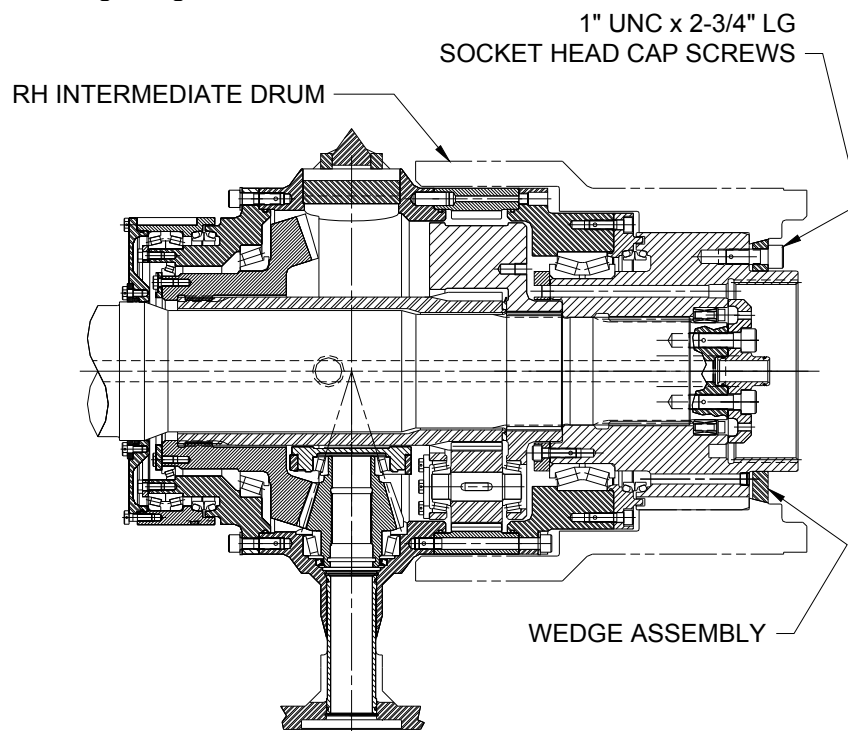

Figure 5.9
10. Loosen the eighteen 1" socket head cap screws that secure the wedge block assembly and the drum to the cutting head hub. Remove the cap screws and wedge. Figure 5.9.